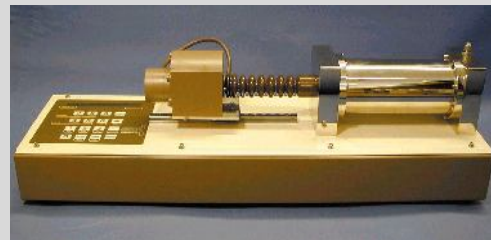

Fig. 5 1000cc air pressure controller (ADVDP)
- 1000cc digital air Pressure/volume controller (ADVDP) for the application of pore air pressure and measurement of air volume change (see Fig. 5).